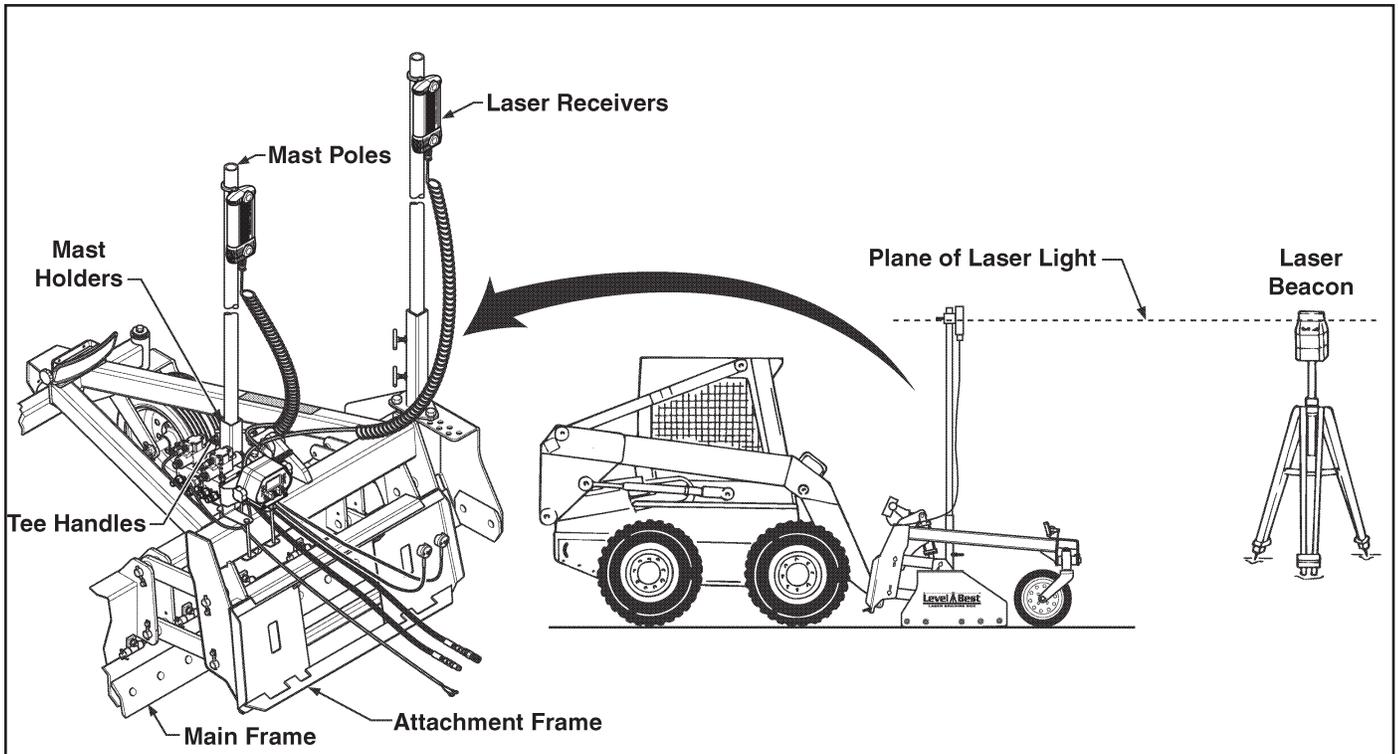

Figure 22. Components of the Automatic Control System on a Skid Steer
6. Insert the two Mast Poles in the holders, one in the center and one on the right side, until they rest at the bottom of the tube. Tighten the tee handles to secure the masts. Clamp a Laser Receiver near the top of each mast so it is higher than any local obstructions including the skid steer cab or fall protection devices. (Refer to Figure 22).